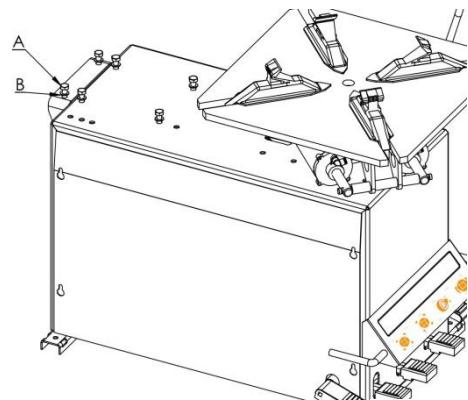

Fig. 4
- First remove the bolts (A, fig.4)and washers (B,fig.4).